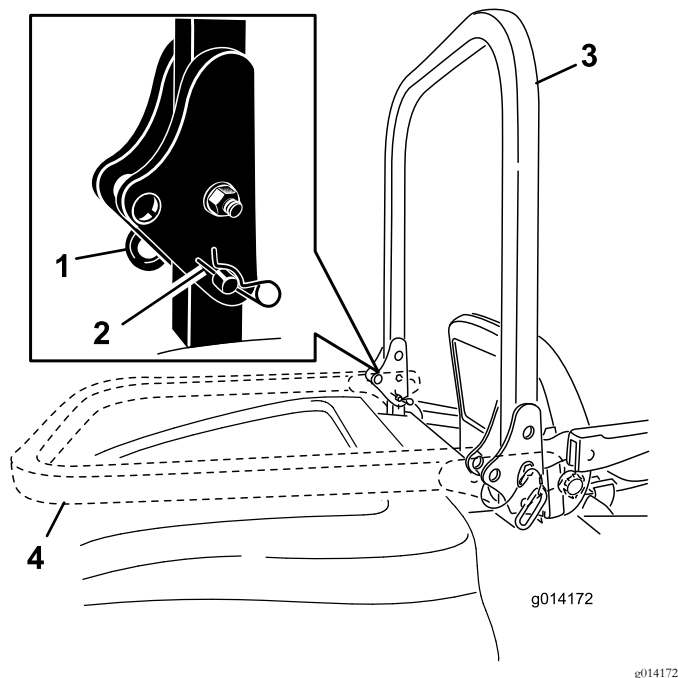

Figure 18
1. To lower the roll bar, remove the hairpin cotters, push the roll bar forward against the springs, and remove the 2 pins (Figure 18).
2. Lower the roll bar to the down position (Figure 18).
3. Install the 2 pins and secure them with the hairpin cotters (Figure 18).
4. To raise the roll bar, remove the hairpin cotter pins and remove the 2 pins (Figure 18).
5. Raise the roll bar to the upright position and install the 2 pins and secure them with the hairpin cotters (Figure 18).